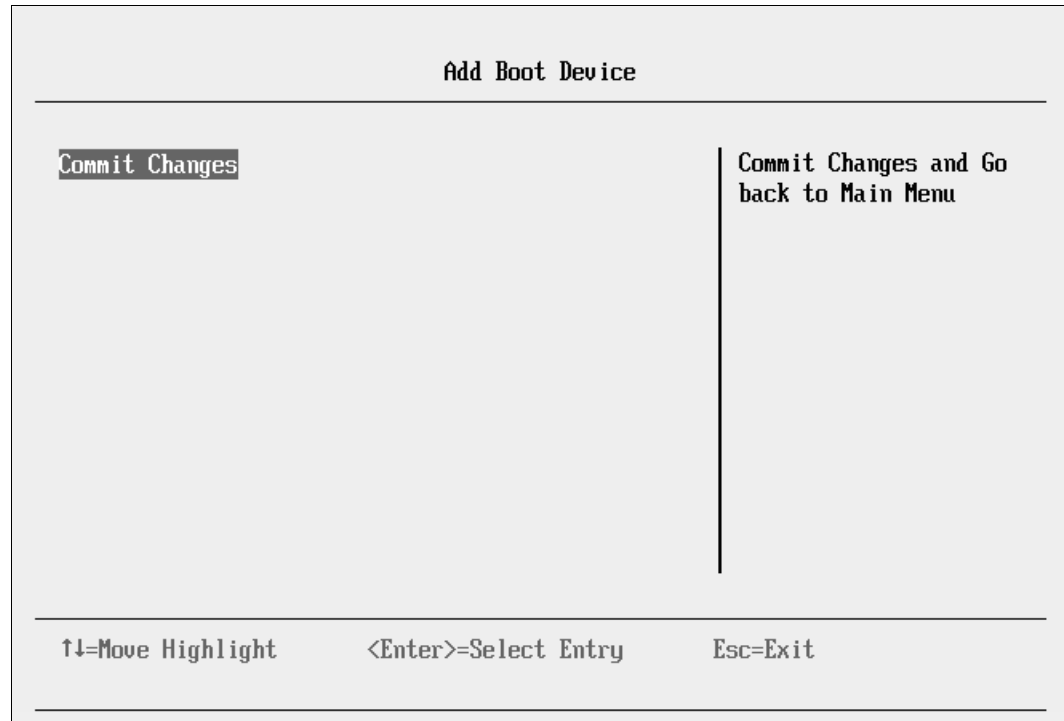

Figure 9-159 Add Boot Device panel
8. Highlight **Commit Changes**, and press Enter (Figure 9-159).